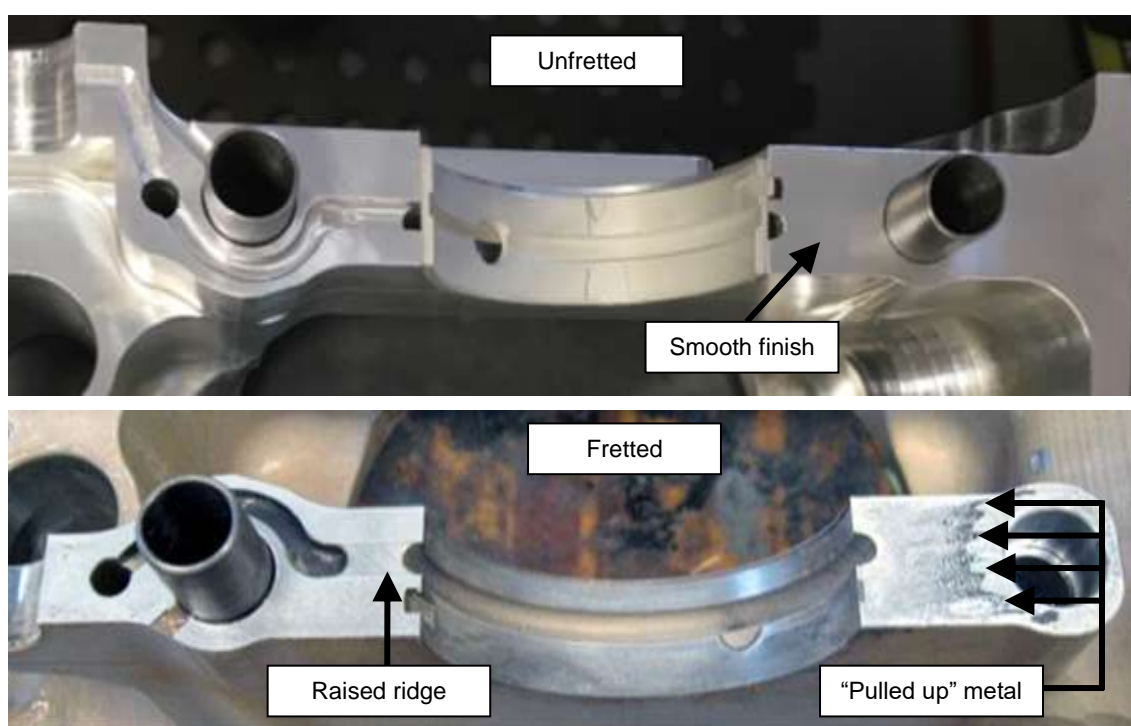

Figure 5 – Crankcase fretted vs unfretted
- Inspect the machined mating faces (between the two halves) for signs of fretting. If fretting can be detected (either by observation and/or by feeling roughness against your fingernail across the affected area – see Figure 5) then it must be corrected by having both case halves surface skimmed and the bearing tunnels bored to the correct dimensions before returning to service.